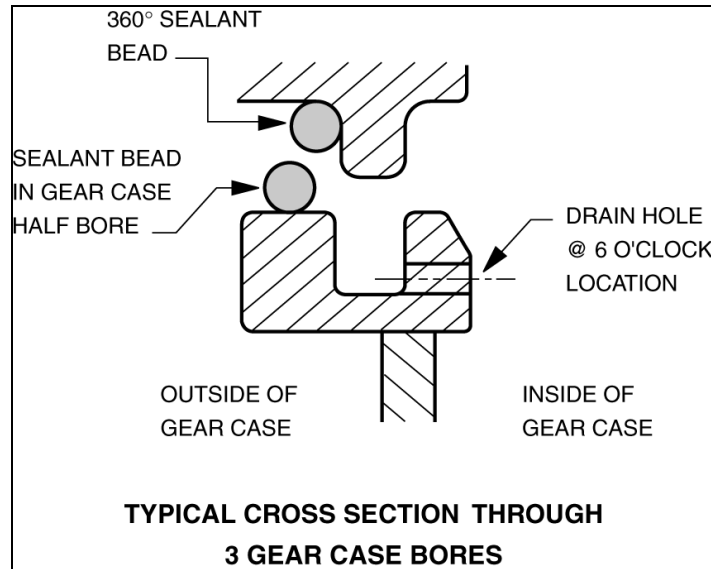

Figure 20 – Gear Case Sealant Beads
4. Wipe all seal surfaces on the gear case halves and the motor axle assembly with a lint-free cloth, to remove all traces of oil. Apply three continuous 6.25mm (1/4”) beads of RTV sealant to the motor and axle assembly adjacent to the seal tongues as shown in Figure 20.
5. Apply additional 6.25mm (1/4”) diameter sealant beads at each of the half bores in the upper and lower case halves as also shown in Figure 20. Note that these sealant beads are always placed outboard of the tongue or groove.
6. Apply a 3.125mm (1/8”) diameter sealant bead on either the upper or lower gear case parting line flange segments. Form the beads continuously and surround each bolt hole with a ring of sealant. See Figure 20.